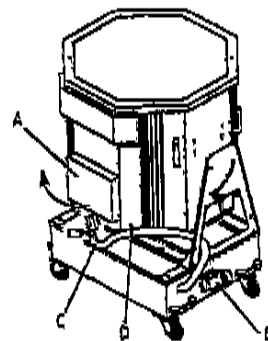

fig.2
2) Connect the ballast unit to the upper part through the mains cable (C). Unscrew the two locking knobs of the panel and connect the two supply plugs. Ensure that the plugs are correctly connected and that the grey plug is safety closed by its clamp; close the panel (see fig. 2)
3) Fix the cable (C - fig. 2) to the upper part by the relevant fixing yoke (D - fig.2) to allow an easier movement to the upper part.
2) Connect the plug to the socket fitted on the projector (B) (fig. 2) and then to a mains supply of 210/240V - 50/60Hz.